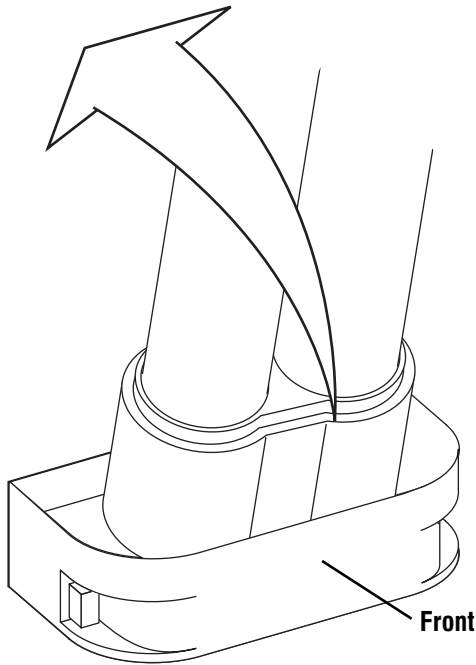

Fig. 7 Attach lamp to connector by inserting the front of the lamp first then snapping the back of the lamp into place.
2. Attach lamp to electrical connector by inserting the front of the lamp into the connector first then gently snap the back of the lamp in place. (Fig. 7)